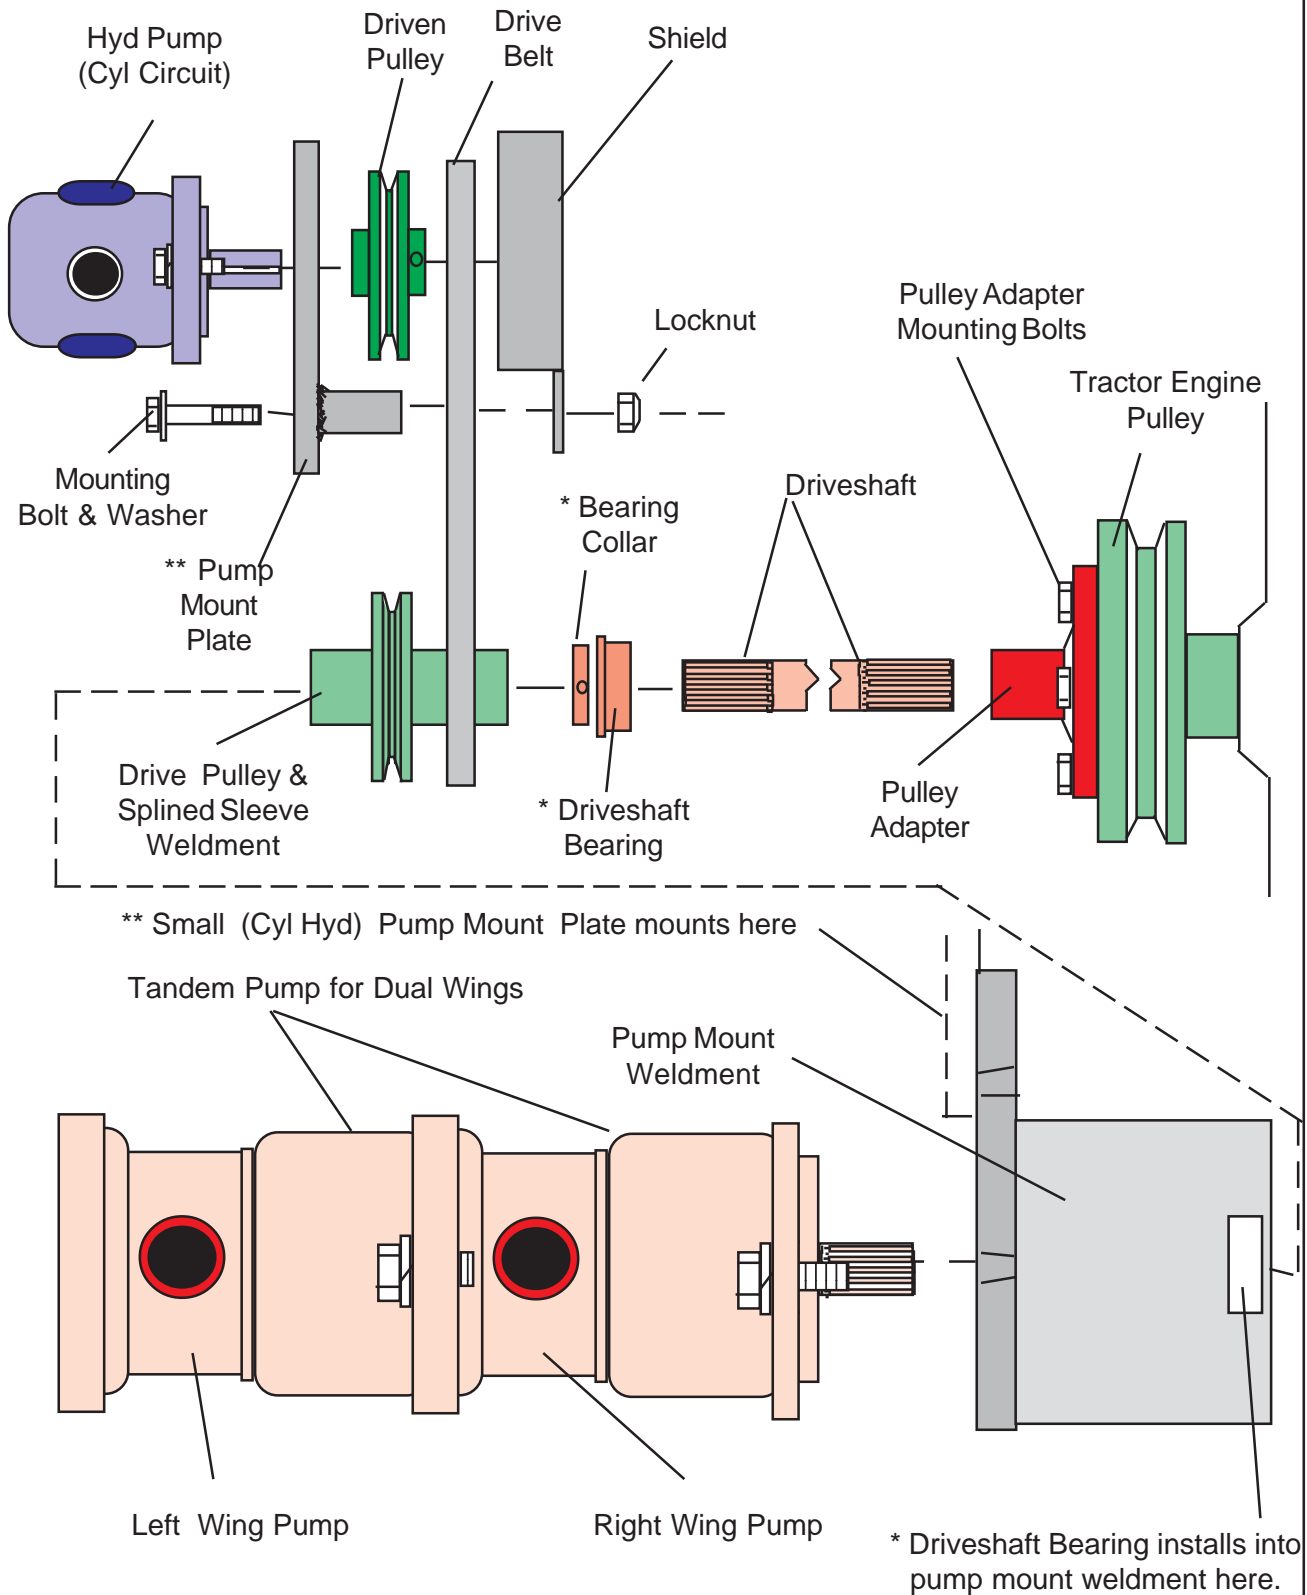
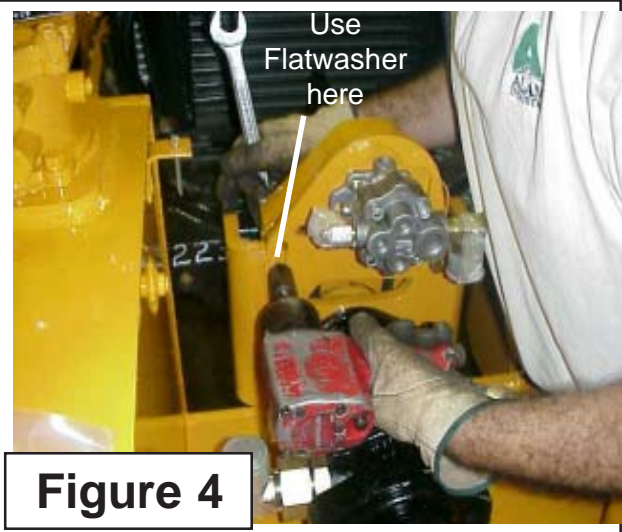

Figure 1
Figure 4
Remove Components from Tractor. There are items that must be removed from tractor that will not be used before the mainframe can be mounted. On each side of the tractor there heavy mounting lugs that are bolted to the tractor frame. One on the left hand and one on the right hand side. The steps on the left and right side has to be removed. (See Figure 1) The Battery Relocation Kit will have to be installed, with this modification the battery will no longer swing completely out. To remove Battery after modification is done will best be done by two people as battery is heavy and will have to be lifted out. Before beginning any work on Tractor the Negative Ground Battery cable needs to be disconnected from the battery to protect the electrical system. Before reconnecting Battery cable check all connections that you have made and make certain all components of the tractor are in the OFF position.
1. Install the Frame Mounts Rails. There is a LH and a RH Frame Mounting rail. These will bolt to the front of the tractor with three mounting bolts on each side. When Starting the three mounting bolts it will work best to install the RH Side (See Figure 2) and the LH Side (See Figure 3). Do not tighten the three mount bolts on each side, this will allow you to align mounting bolts easier. Move to the rear of the tractor under the rear axle, check the threaded bolt holes in the rear end housing. Remove any plugs or bolts that will be in the way. (See Figure 4 & 5)
1. Gain Access to Tractor Engine. Raise the hood of the tractor to reveal the tractor engine (See Figure 2). Remove the engine guards on the left hand side of tractor (See Figure 3). This will allow you access to the Tractor Crankshaft Pulley. (See Figure 1). Remove the plate under After cooler which will make installing driveshaft easier.
2. Bolt Pulley Adapter to Engine Crankshaft Pulley. Bolt the pulley adapter to the to the crankshaft pulley with the supplied bolts. Make certain the bolts used are not to long or to short (See Figure 1).
4. Install pump Mount Weldment. Bolt the pump mount weldment to the front bolster of the tractor. The driveshaft will be sicking through the hole in the pump mount weldment. (See Figure 1)
5. Install Driveshaft Bearing & Bearing Collar. Slide the bearing onto the driveshaft until the bearing is seated into the inner hole of the pump mount weldment where the driveshaft comes through. Slide the bearing collar onto driveshaft until seated against bearing. Making certain that driveshaft is seated into crankshaft pulley adapter tighten setscrew for bearing collar. (See Figure 1)
8. Install Pump Retaining Bolts. Install the two bolts that retain the Left & Right wing pump(s) to the pump mount weldment and tighten them. (See Figure 1)
9. Install Small Pump (Hyd Cyl System). The Hyd Cyl operate from a small pump bolted above the tandem pump. (See Figure 1) Bolt the Pump onto the Small Pump Mount plate with the two mounting bolts. Install the driven pulley onto the pump, make certain to install the key in pump shaft. DO NOT tighten the setscrews in pulley until later. Slide the Drive Belt onto driven pulley and align the pump mount plate with the holes in the pump mount weldment, use Flat washers on bolts to mount to pump mount weldment (See Figure 4). DO NOT Tighten these bolts yet.
2. Connect Clip to Valve Spool. Turn the clip and the valve spool to where the hole in the clip and the hole in the spool are aligned. Using a hammer drive the roll pin through the hole in the spool and through the other side of clip (See Figure 4) . Make certain to keep the clip aligned when driving pin in. Turn the clip and spool as shown (See Figure 5), Continue this with the other 4 cables and clips (See Figure 6).